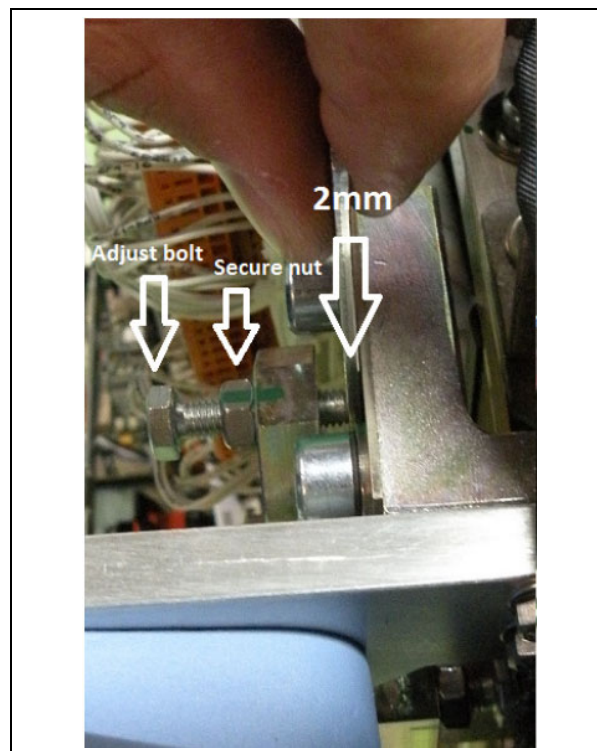

Figure 6
- (1) Place a 2 mm gauge between the straight gauge of the mobile unit and the adjust bolt as shown in figure 6.
- (2) Adjust the bolt to have it in contact with the 2mm gauge.
- (3) Secure the adjust bolt by tightening the secure nut.